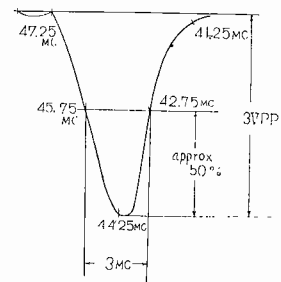
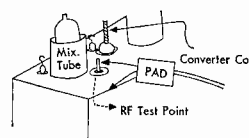

Figure 10
Figure 11
- iii) Disconnect the output of sweep generator from TP-2 and connect to TP-1 of the tuner as shown in Fig. 11. Adjust 2TIF-467, 2TIF-470 and 2TIF-471 to obtain the waveform as shown in Fig. 10 in case of which the output of sweep generator should be adjusted to produce about 3 Vpp. Re-adjust, when the wave form will not be obtained.